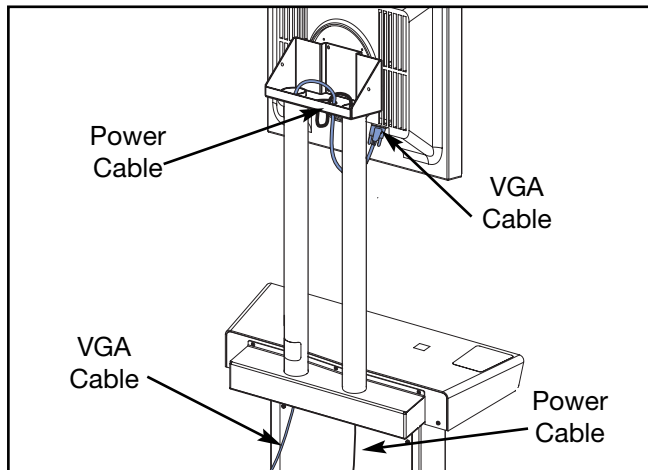

Figure 5
F. Route the two monitor cables up through the middle hole in between the support tubes. See Figure 5.
- G. Route the two monitor cables down through the monitor support bracket tubes until they exit at the bottom. **NOTE:** Route the VGA cable through the left tube. See Figure 5.